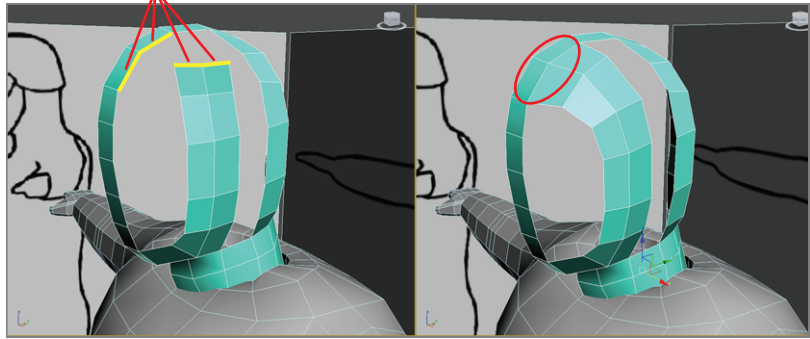

FIGURE 9.8 Use Bridge to close the gap.
10. Select the edges shown on the left side of Figure 9.8, and then use Bridge to curve the strip toward the forehead, as shown on the right in Figure 9.8.